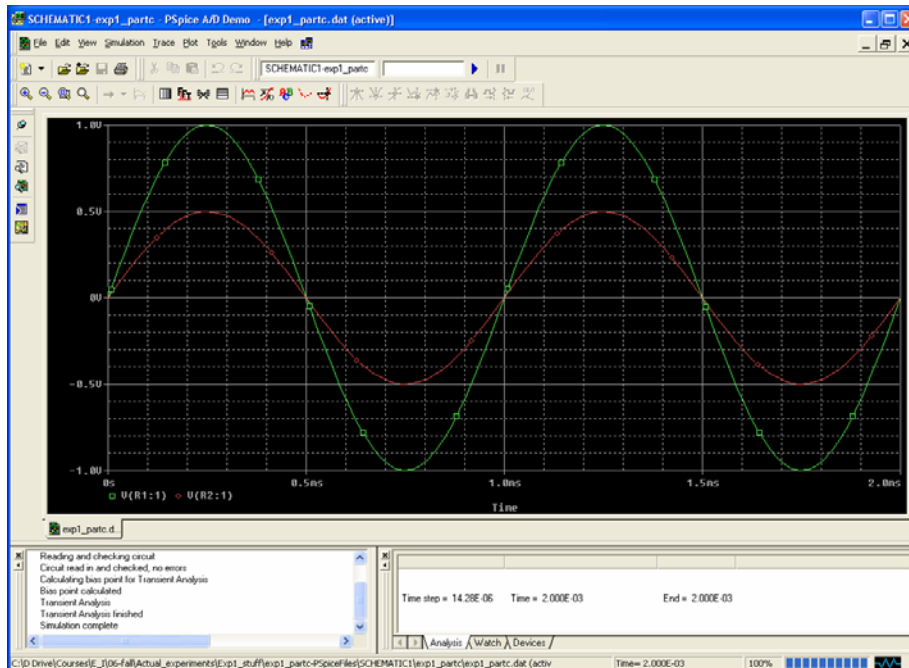

Figure C-10
- Click on the *Run* button. It is possible to set up many kinds of analyses using the *Simulation Settings* window. Since you have already told PSpice where you want to know the voltage, it will produce a plot with the signal you have asked for. If you do not get something that looks like figure C-10, ask for help.